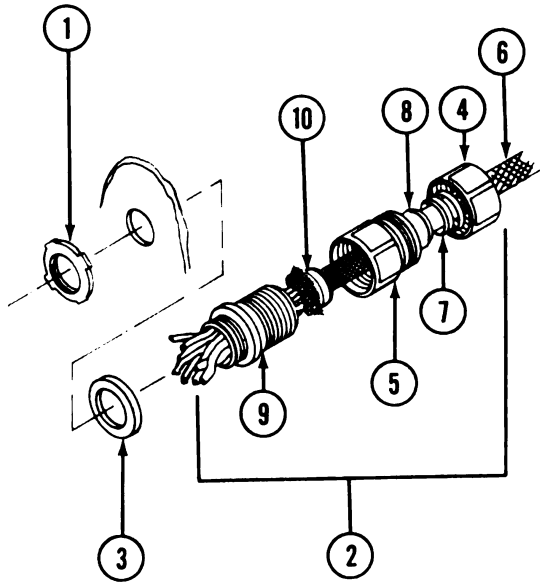

Figure 17-6. P3 Power/Control Cable Connector
(6) Remove P3 power/control cable conduit locknut (1, Figure 17-6) and EMI sealing grip (2, Figure 17-6) from PDU housing (40). Remove EMI gasket (3, Figure 17-6).
(7) Disconnect EMI sealing grip gland nut (4, Figure 17-6) from EMI sealing grip interconnector (5, Figure 17-6). Slide EMI sealing grip gland nut (4, Figure 17-6) above cable grip (6, Figure 17-6).
(8) Collapse cable grip (6, Figure 17-6), and slide away from EMI sealing grip interconnector (5, Figure 17-6). Slide gland washer (7, Figure 17-6) and rubber bushing (8, Figure 17-6) away from EMI sealing grip interconnector (5, Figure 17-6).
(9) Disconnect EMI sealing grip body (9, Figure 17-6) from EMI sealing grip interconnector (5, Figure 17-6). Remove EMI sealing grip body (9, Figure 17-6), nylon bushing (10, Figure 17-6), EMI sealing grip interconnector (5, Figure 17-6), rubber bushing (8, Figure 17-6), gland washer (7, Figure 17-6), cable grip (6, Figure 17-6), and EMI sealing grip gland nut (4, Figure 17-6).
(1) Slide EMI sealing grip gland nut (4, Figure 17-6) onto P3 power/control cable (8, Figure 17-7).
(2) Collapse cable grip (6, Figure 17-6), and slide onto P3 power/control cable (8, Figure 17-7). Stretch cable grip (6, Figure 17-6) so cable grip fitting is about 2 inches from end of cable outer jacket, and cable grip mesh is taut.
(3) Slide gland washer (7, Figure 17-6), rubber bushing (8, Figure 17-6), and EMI sealing grip interconnector (5, Figure 17-6) onto P3 power/control cable (8, Figure 17-7).
(4) Slide EMI sealing grip gland nut (4, Figure 17-6) over cable grip fitting. Connect EMI sealing grip interconnector (5, Figure 17-6) to EMI sealing grip gland nut (4, Figure 17-6).
(5) Slide nylon bushing (10, Figure 17-6) over cable shielding and into EMI sealing grip interconnector (5, Figure 17-6).
(6) Peel back cable shielding over bevelled end of nylon bushing (10, Figure 17-6). Slide EMI sealing grip body (9, Figure 17-6) onto P3 power/control cable (8, Figure 17-7).
(7) Connect EMI sealing grip body (9, Figure 17-6) to EMI sealing grip interconnector (5, Figure 17-6).
(8) Place EMI gasket (9) on end of EMI sealing grip (12). Connect EMI sealing grip (12) to PDU housing, and install P3 power/control cable conduit locknut (2).
(9) Connect P3 power/control cable wiring to ground stud (30), TB1 (57), and K1 contactor (36). Remove tags.
(10) Install K1 contactor (36) cover, two washers, and two screws.
(11) Close enclosure cover (19), and secure with latch (42).